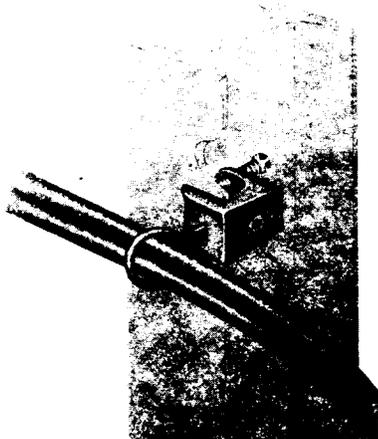

Fig. 10—B Insulator Support
A. B Insulator Support (Fig. 10)